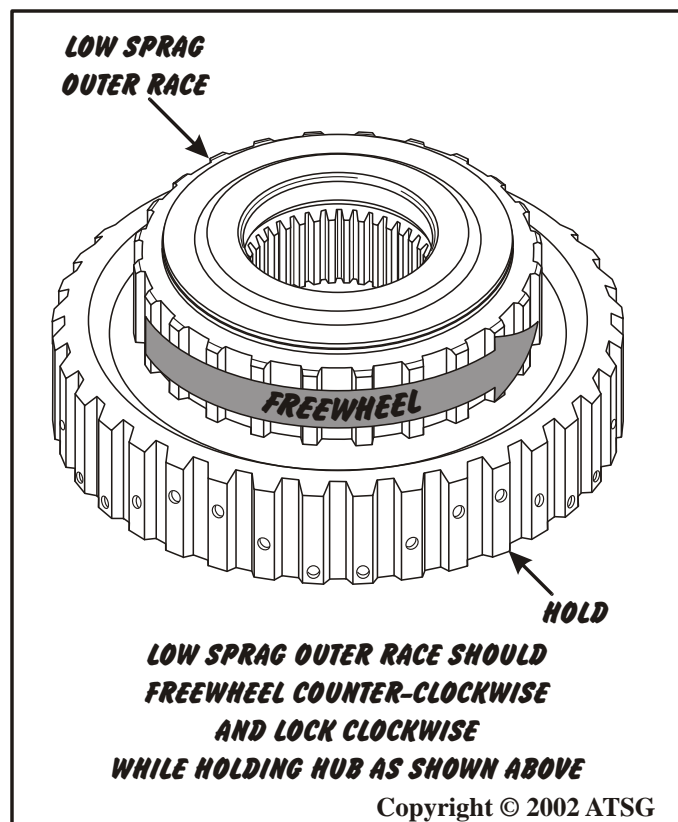

Figure 128
1. Inspect the low sprag assembly for proper hold and freewheel operation (See Figure 128).